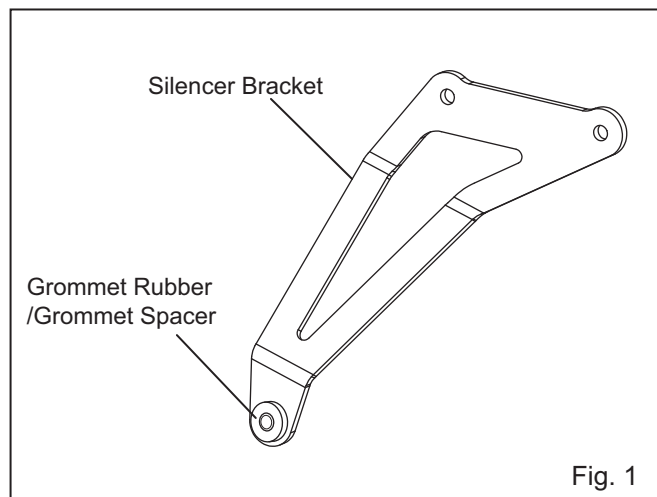

Fig. 1
- 3) Mount Grommet Rubber and Grommet Spacer on Silencer Bracket. (See Fig. 1)